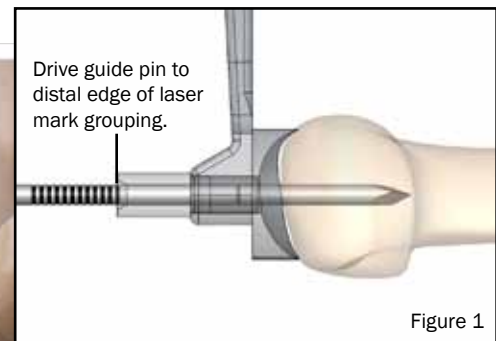

Figure 1
4. Drive the guide pin into the center of the metatarsal shaft until the first calibration mark in the grouping point is flush with the top of the stainless steel portion of the drill guide. (Figure 1)